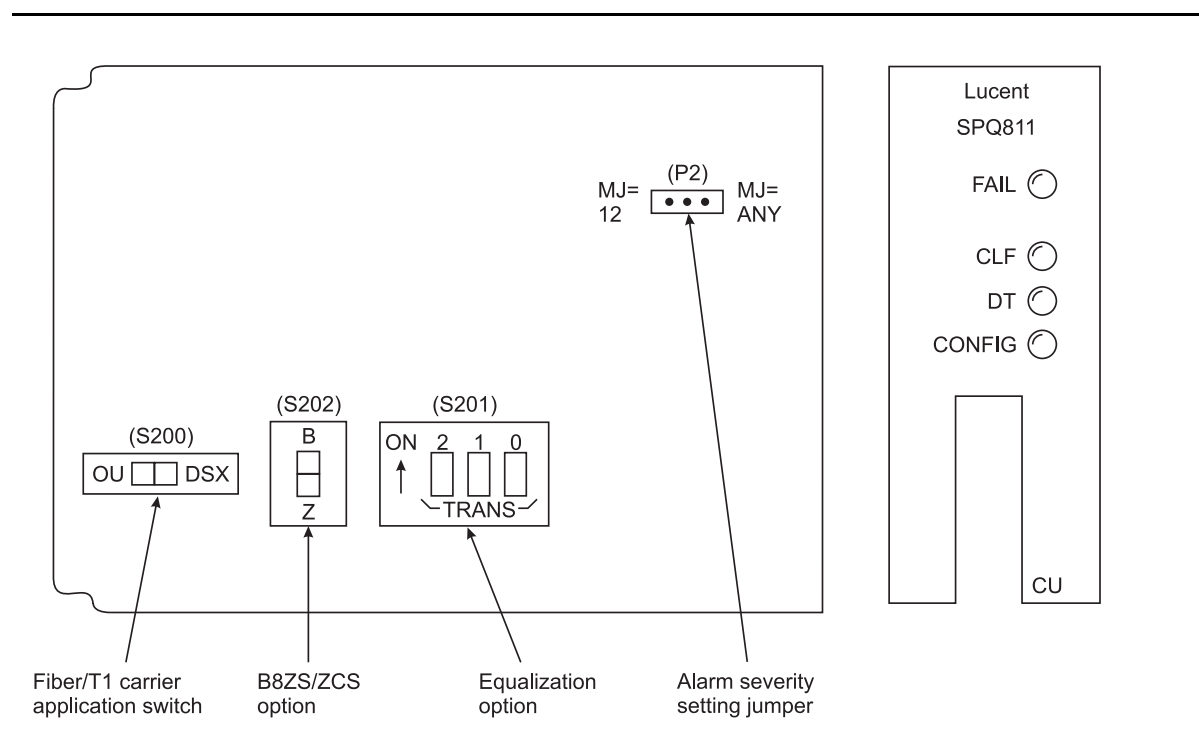

Figure 4 – SPQ[®]808, SPQ809, SPQ810, and SPQ811 Option Switches
13. On the DT Server printed circuit board (see Figure 4), set the **OU-DSX** switch toward **OU**.
15. On the DT Server printed circuit board (see Figure 4), set the **OU/DSX** switch toward **DSX**.